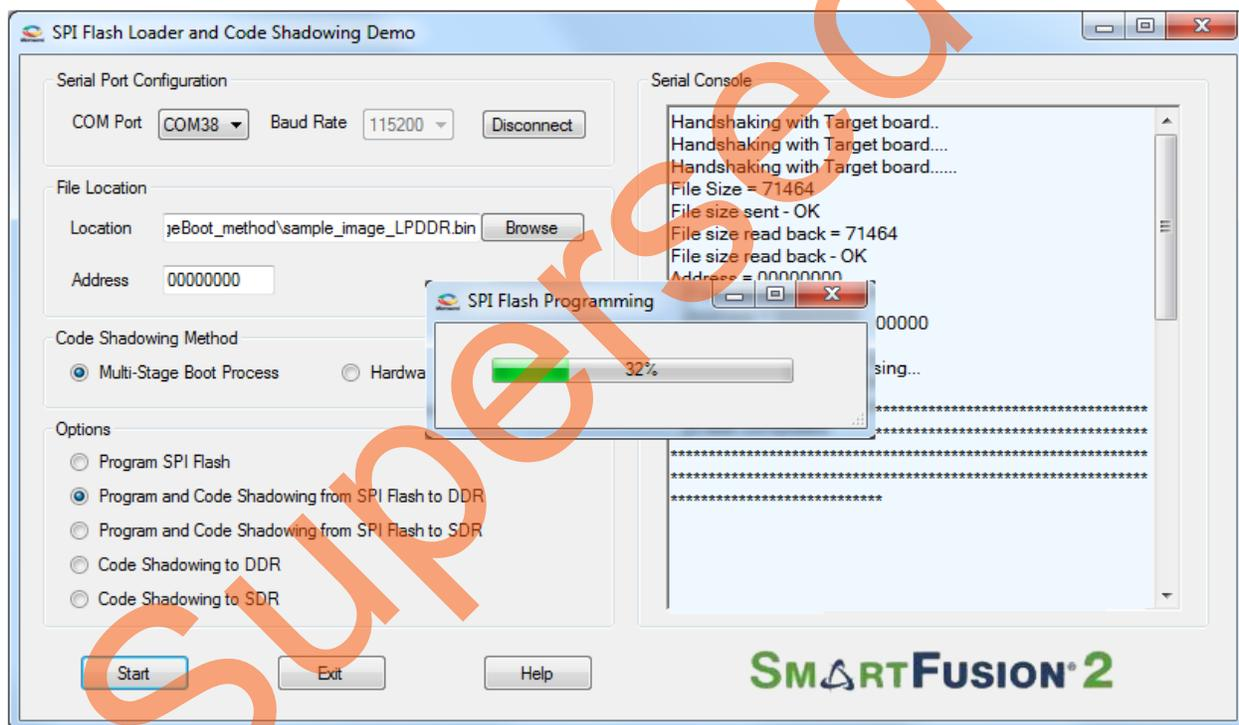

Figure 12 • Flash Loading
- The serial console section on the GUI shows the debug messages and starts programming SPI flash on successfully erasing the SPI flash. Figure 12 shows the status of SPI flash writing.